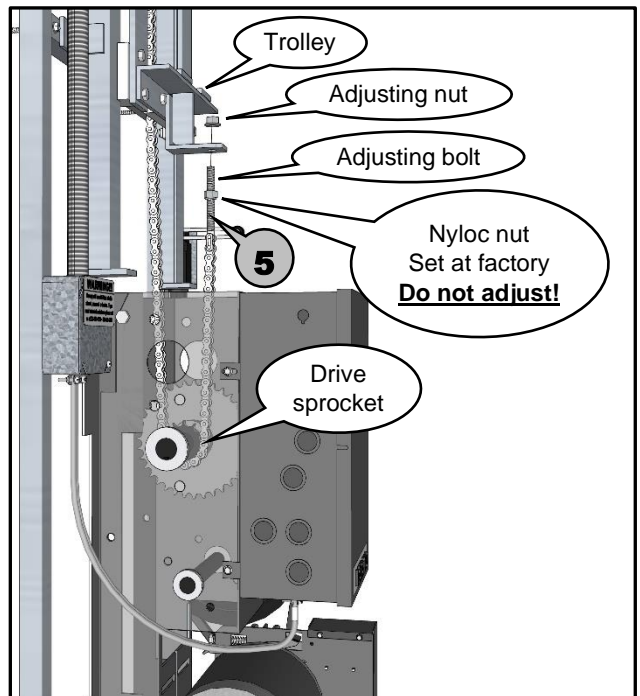

Figure 8
- 5** The other end of the chain should hang down behind the trolley and be placed around the drive sprocket of the motor. Then insert the threaded adjusting bolt, on the end of the chain, into the hole on the bottom of the trolley, where the adjusting nut is tied on, and use the adjusting nut to secure the adjusting bolt to the trolley. Use a blade screwdriver or needle nose pliers to hold chain from twisting and tighten adjusting nut until Nyloc nut is tightly seated against trolley. **Do not adjust Nyloc!** (see Figure 8)
- 7** Cut black plastic tie, next to the drive sprocket, off. (see Page 12, Figure 8, for sprocket location)